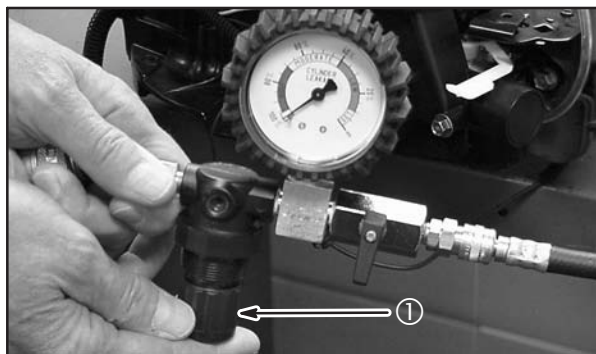

Fig. 19 – Adjusting Compression Tester
7. While securely holding the flywheel nut with the breaker bar and socket, pull the knob lock out in the direction of the arrow. Slowly turn the regulator adjustment knob (Figure 19) ① clockwise until tester's needle is on the set point. Push in regulator adjustment knob.